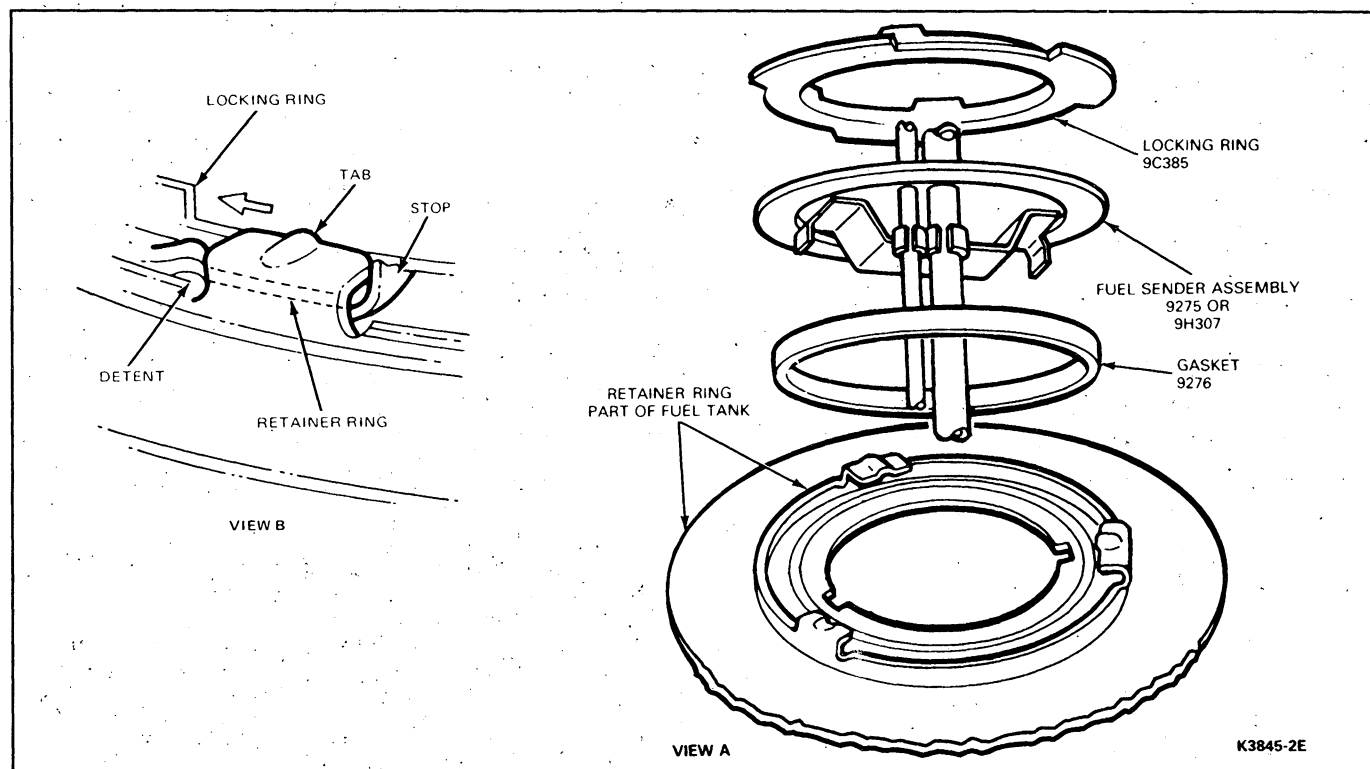

FIG. 15 Fuel Tank Sender Installation (Metal Lock Ring Type)
2. Place a new sealing gasket in the groove of the fuel tank. Install the fuel sender into the fuel tank so that the tabs of the sender are positioned into slots of the fuel tank. The sealing gasket must remain in place during and after fuel sender installation (Fig. 15, View A).
3. Holding the fuel sender and sealing gasket in place, install and rotate the locking ring clockwise until the stop is against the retainer ring tab (Fig. 15, View B).